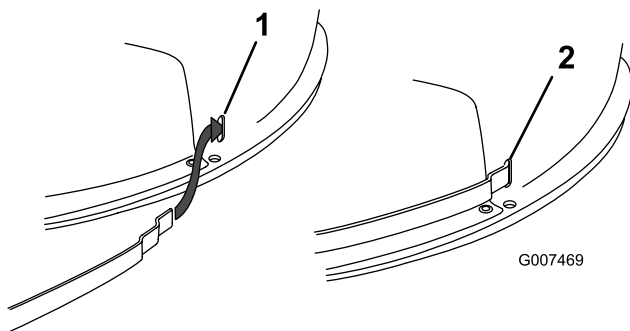

Figure 20
Note: Do not remove the straps from the mower housing. If a strap comes off the housing, insert it as shown in (Figure 20).
- Raise the grass collector and install the clevis pin, 2 washers, and hairpin to secure the discharge tube to the rear plate (Figure 20).